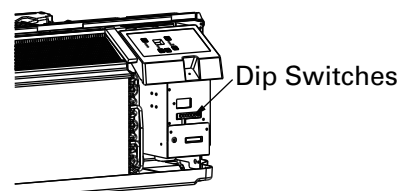

Fig.2
- Dip switches are accessible without opening the control box. (See Fig.2)
- Pull out at the bottom to release it from the tabs (1).
- Then lift up (2).